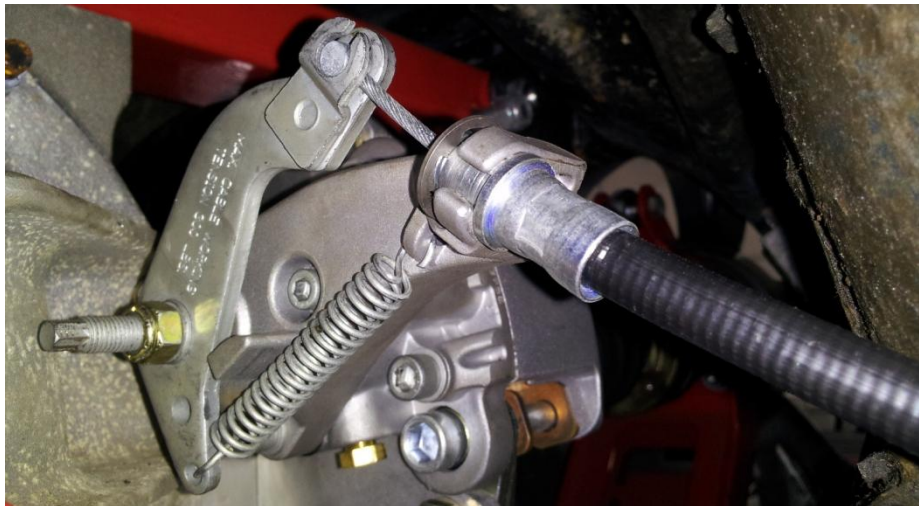

Figure 1. Cable Installation
- 4) Connect the cables by feeding the round slug through the caliper arm, and install the retaining clip as shown in Figure 1.